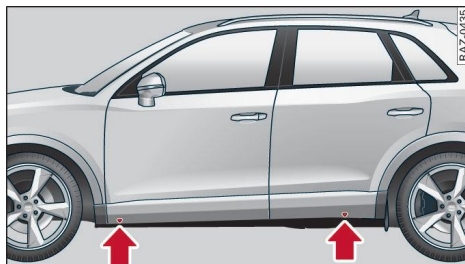

Fig. 173 Sills: markings
- ▶ Locate the marking on the door sill closest to the wheel being changed ⇒ *Fig. 173*. The jacking point is located behind the marking on the door sill.
- ▶ Wind up the jack underneath the jacking point on the door sill until the claw of the jack ① completely surrounds the seam on your vehicle.
- ▶ Align the jack so that its claw ① fits around the seam and the base plate of the jack ② is flat on the ground. The base plate ② must be positioned vertically underneath the jacking point ①.